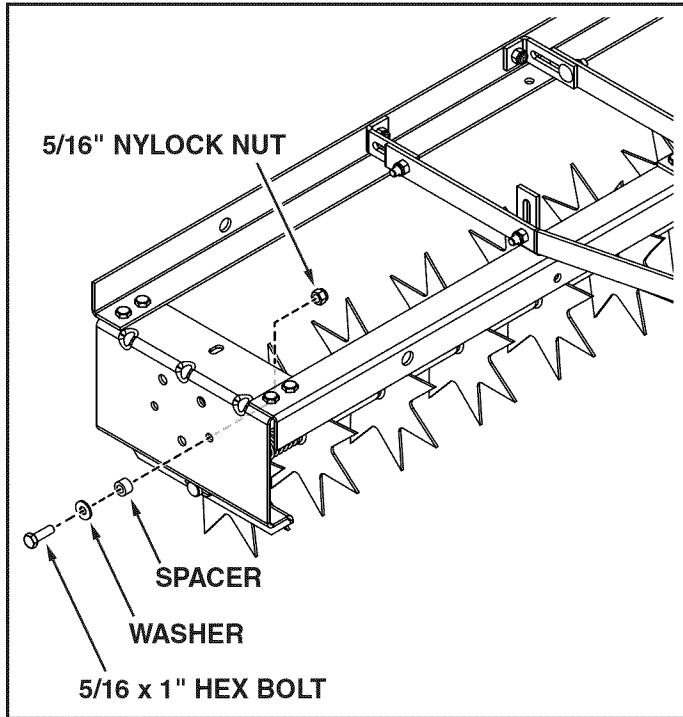

FIGURE 9
- Assemble a 5/16 x 1" hex bolt, washer, spacer, and 5/16" nylock nut to the front hole on each end plate. See figure 9.
- Attach the aerator to the tractor hitch and check to see that the aerator is level. Adjust by loosening the bolts which fasten the hitch mount arms to the hitch arm mount brackets. Raise or lower the position of the arms until the aerator is level. See figure 9.